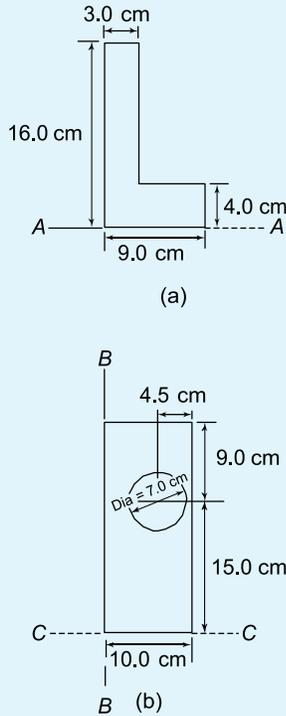

Figure 8.25
10. Determine the second moments of areas about the given axes for the shapes shown in Figure 8.25 (In Figure 8.25(b), the circular area is removed.)